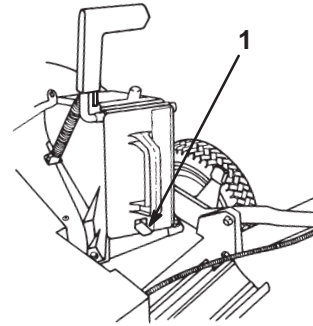

Figure 3
3. Push the plug all the way in until the spring clip on the bottom of the plug clicks into place, locking the plug securely into the discharge tunnel (Fig. 3).